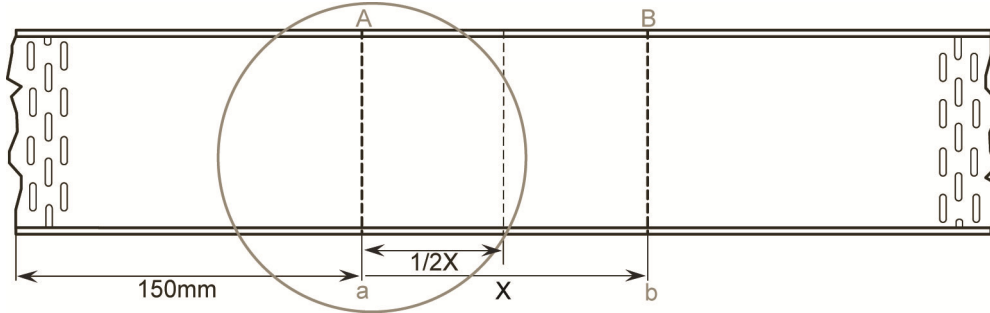

Figure 19
- Refer to Figure 19, measure and mark line **Aa** (e.g. 150 mm).
- Calculate dimension $X = \sqrt{2} (W)$ $X = 1.414 \times 100 = 141$ mm.